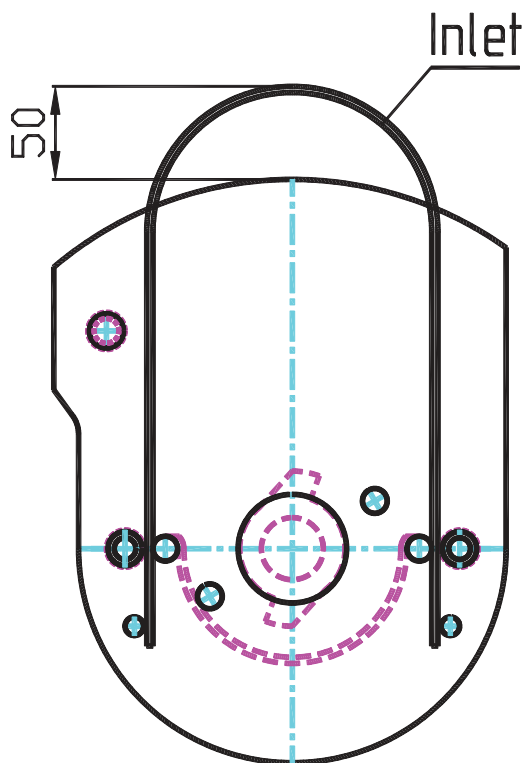

Figure 5.2.1
- Before coffee beans are fed into the huller, the cover should be pulled up 40 – 50mm from the top rim. Then feed the coffee in the sample huller by means of coffee tray. Pour 200g of the coffee into the machine for each hulling times. (Figure 5.2.1)